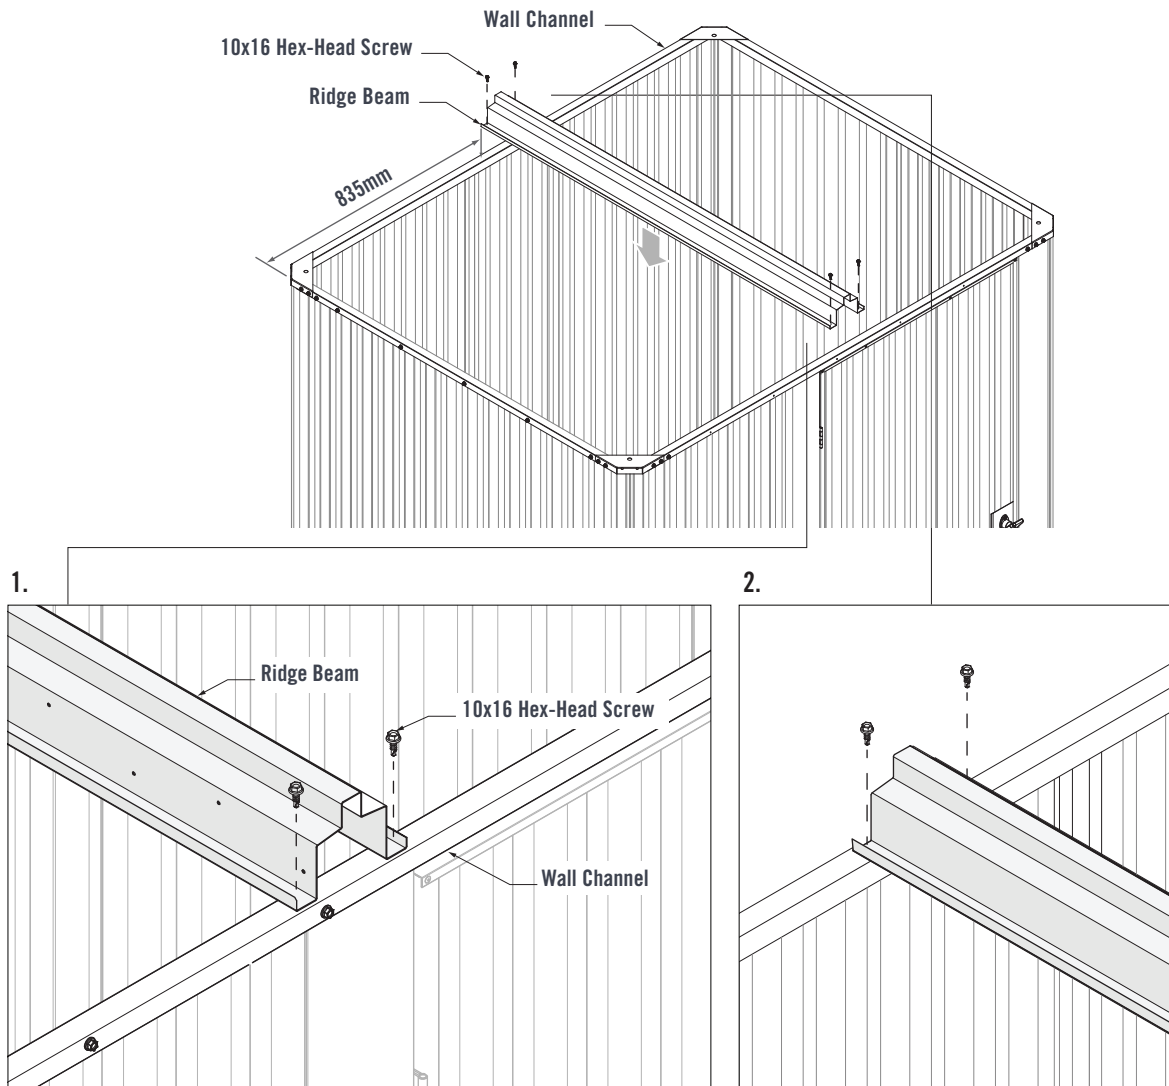

FIGURE 7.1
Fit the Ridge Beam onto the top Wall Channels. Ensure 835mm spacing between the edge of the shed and edge of the Ridge Beam (Figure 7.1).
1. Align the end of the Ridge Beam with the outer edge of the Wall Channel. Fasten two 10x16 Hex-Head Screws through the pilot holes in the Ridge Beam and into the Wall Channel (Figure 7.1).
2. Fasten two 10x16 Hex-Head Screws through the pilot holes in the Ridge Beam and into the rear Wall Channel (Figure 7.1).